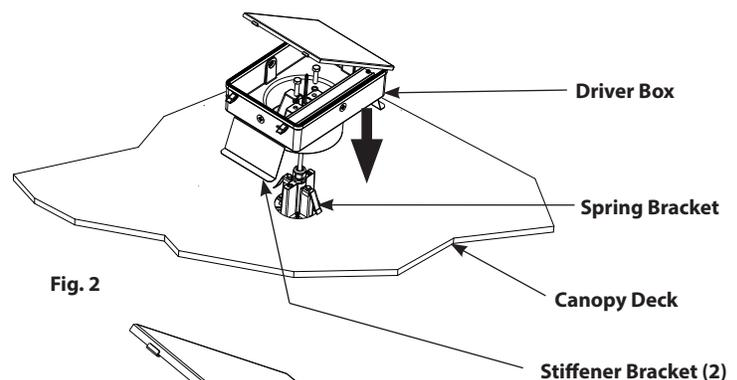

Fig. 2
3. Unlatch and open **Driver Box** and align over the **Housing** from above **Canopy Deck** as in **Fig. 2**. Pull housing leads into **Driver Box**. Be careful not to pinch wires.